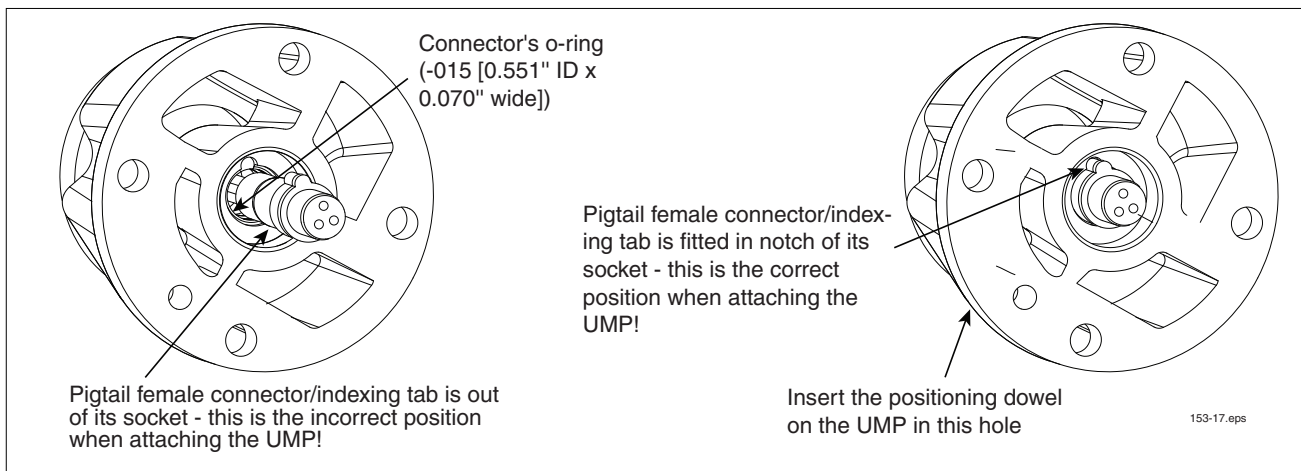

Figure 5. Verifying Pigtail's Female Connector Is Seated Properly
1. Visually inspect the pigtail connector in the end of the discharge head. Be certain the pigtail connector is seated in its socket and its index tab is in the socket's notch (see Figure 5).
3. Align the UMP positioning dowel insert in the proper hole in the discharge head (see Figure 5) and push the UMP into position using hand force only. The UMP should be snug against the discharge head prior to installing the UMP retaining bolts.